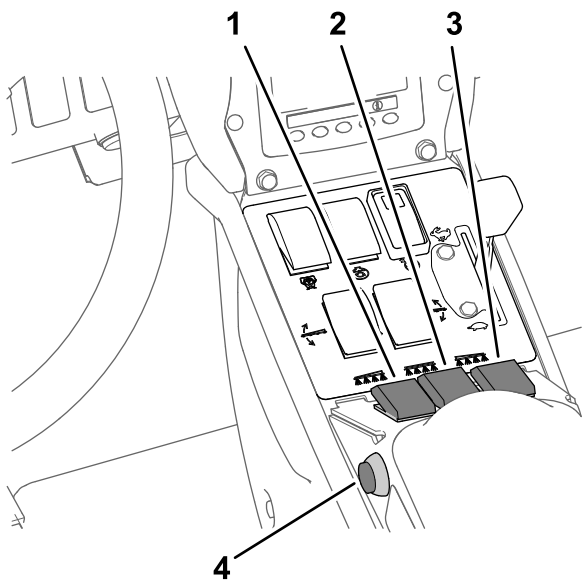

Figure 29
7. Set the spray section switch(es) to the ON position (Figure 29).
10. Drive at the desired speed and then set the master section switch to the ON position to begin spraying (Figure 29).
3. Set the master section switch to the OFF position; refer to Figure 29 in *Spraying in the Application Rate Mode* (page 32).
7. Set the individual section switches, as needed, to the ON position; refer to Figure 29 in Spraying in the Application Rate Mode \(page 32\).
9. Drive at the desired speed and then set the master section switch to the ON position to begin spraying; refer to Figure 29 in Spraying in the Application Rate Mode \(page 32\).